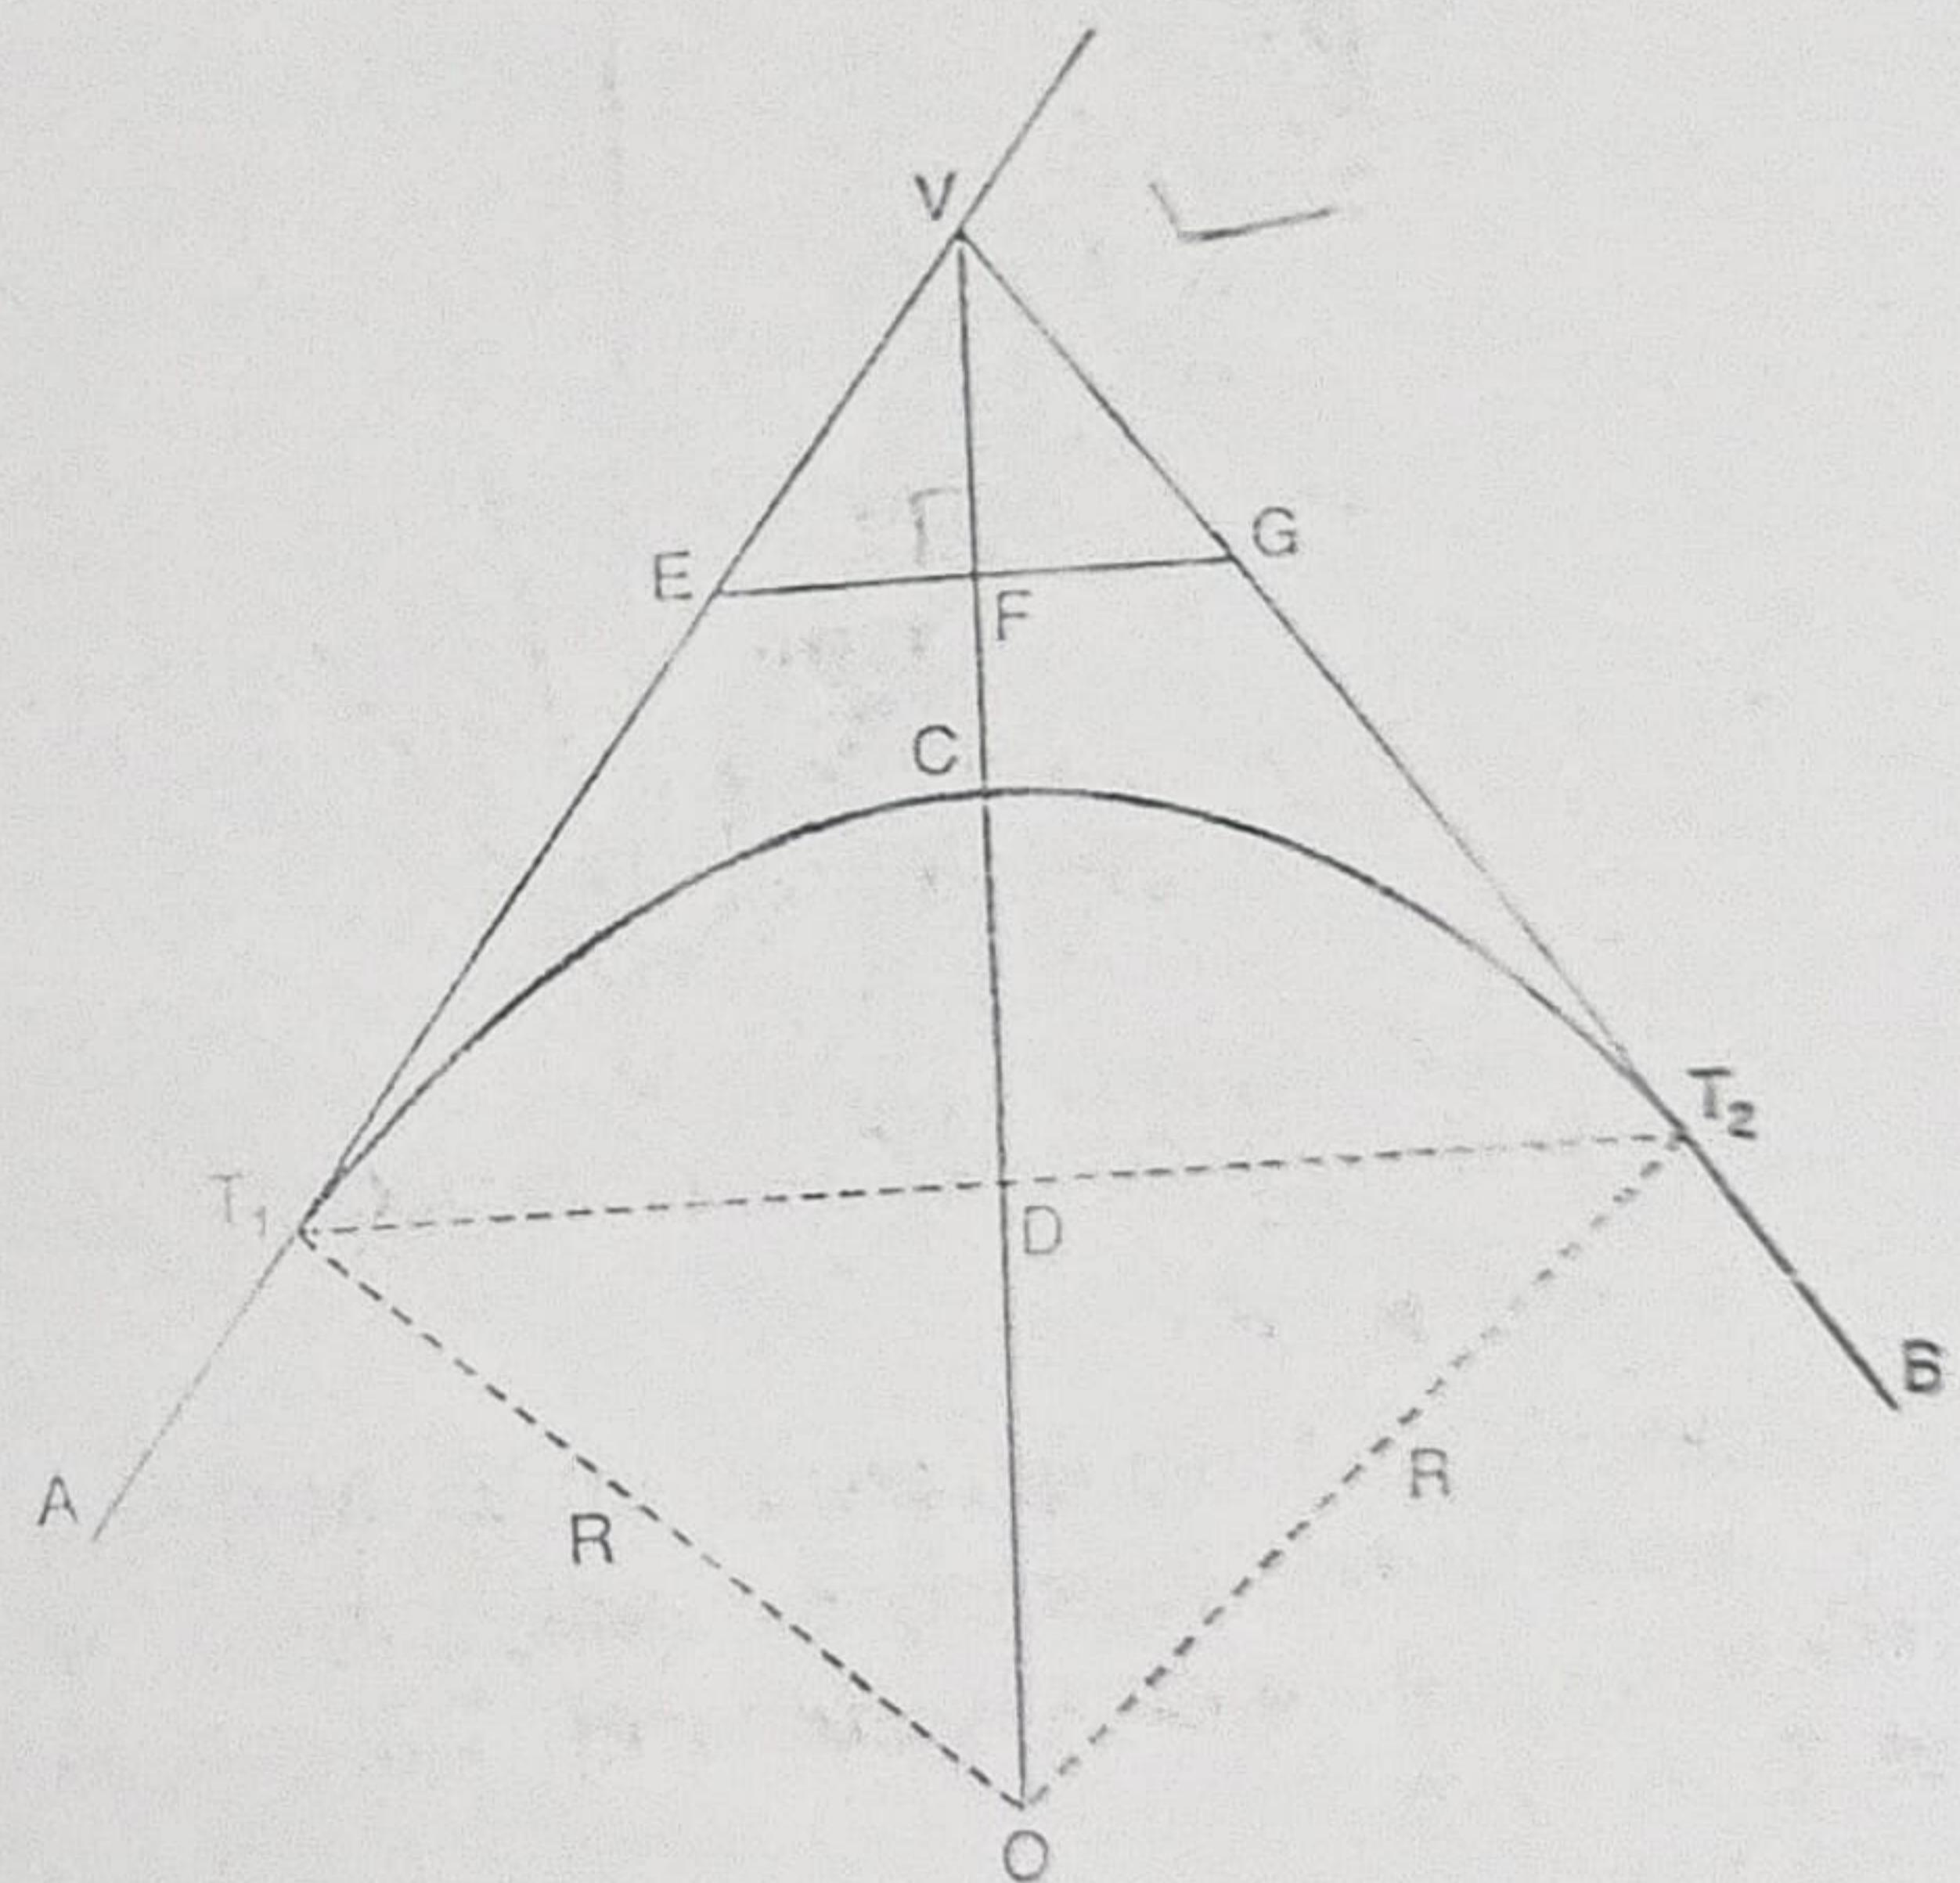

FIG. 1.4. LOCATION OF TANGENT POINTS.
(1) By ordinates or offsets from the long chord.
(2) By successive bisection of arcs.
(3) By offsets from the tangents.
(4) By offsets from chords produced (or by deflection distances).
**Location of tangent points.** If an angle measuring instrument is not available, the following procedure may be adopted for the location of tangent points (Fig. 1.4) :
(1) Produce two straight lines to meet at  $V$ .
(2) Select two inter-visible points  $E$  and  $G$  on the two straight lines, equidistant from  $V$ .  $VE$  and  $VG$  should be as long as possible.
(3) Join  $EG$ , measure it and bisect it at  $F$ . Join  $VF$  and measure it.